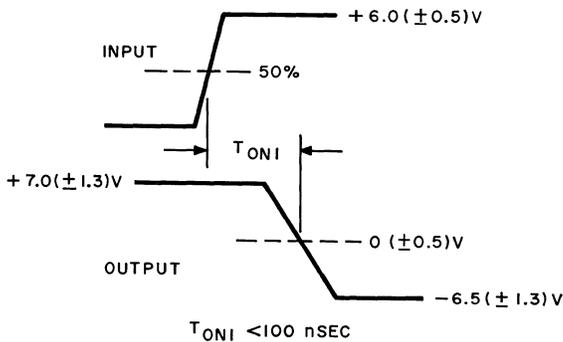

Fig. 37 — EIA Interface Test
(1) Rotate the switch through positions 1 to 5. The input-output waveforms shall be as specified in Fig. 37.